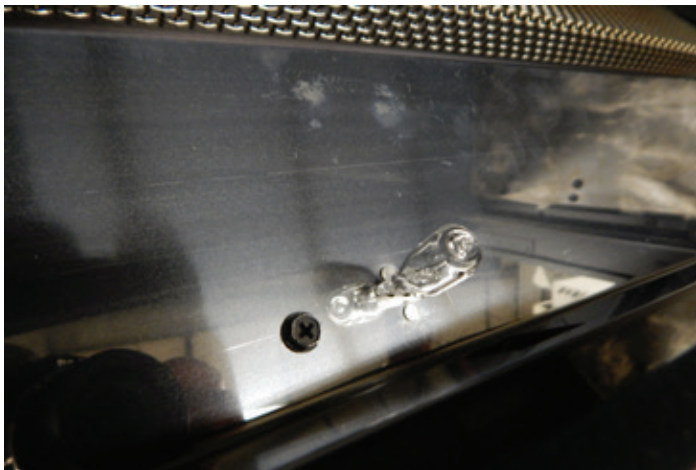

Figure 10
13. Install the four halogen bulbs into the Light bracket sockets. It is recommended that the bulbs be installed using extra care so you do not touch the bulbs with oils from fingers. See Figure 10.